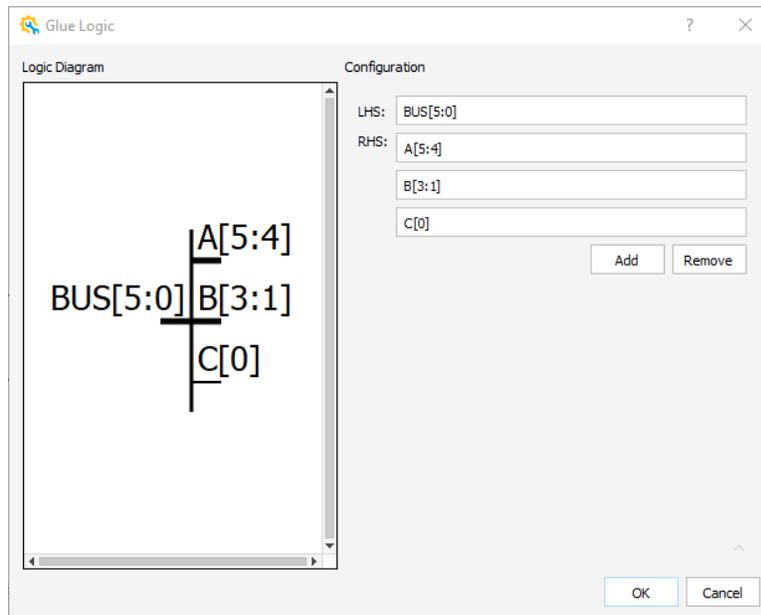

Figure 2.29. Glue Logic Wizard for Split Module
- a. From the IP Catalog, select the **split** module. Double-click the split module, or drag and drop the split module to the Schematic view. A Glue Logic wizard (Figure 2.29) pops up.